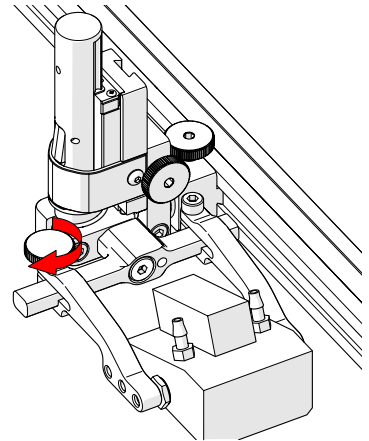

Fig. 168 - Tighten arm knob
6. Tighten the probe holder arm adjustment knob (Fig. 168).